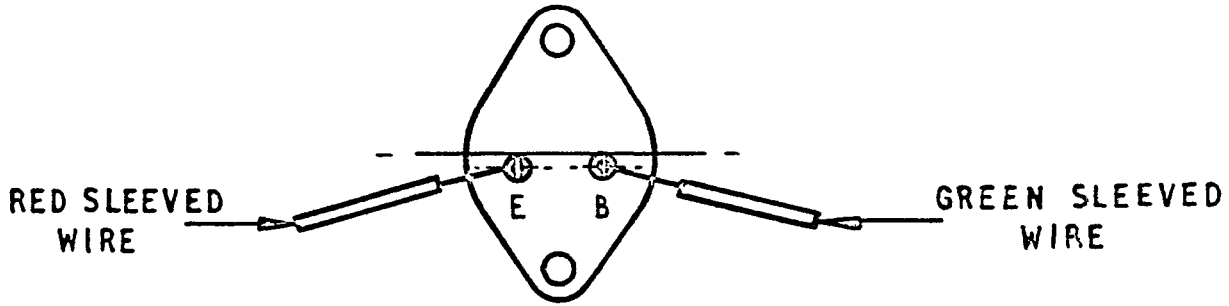

Fig 2 - Underside view of TR3 and TR4
- e. Fit and secure the replacement transistors (BUY24) in lieu of those removed as detailed in sub-para d. Using a heat shunt, solder the red and green sleeved wires, removed as detailed in sub-para c., to the terminations of the replacement transistors as shown in Fig 2.